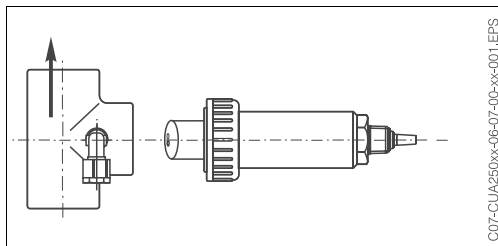
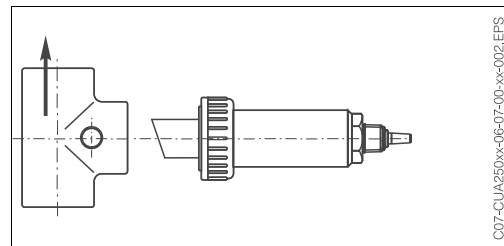

Fig. 8: Parallel sensor orientation
Fig. 9: Sensor orientation against the medium flow
- Two sensor orientations are possible for every installation (→ Fig. 8, Abb. 9):